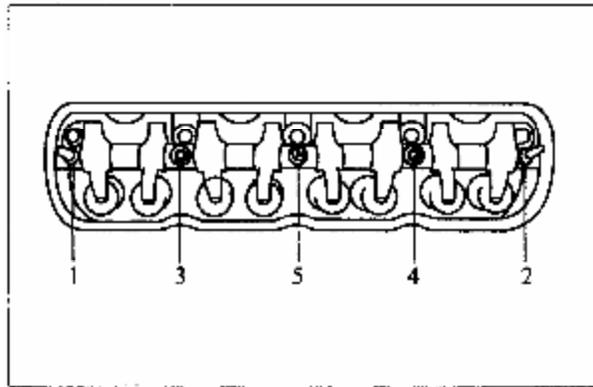

Figure 3-3 Sequence for Disassembly of Rocker Arm Bolts
**3.1.2** Follow the sequence indicated in figure 3-3 to disassemble the rocker arm shaft, unscrew the bolts and nuts of rocker arm shaft in 2~3 times to avoid breaking off of rocker arm shaft and damage the bolts.
Follow a sequence that is reversed to these indicated in figure 3-3 to assemble the rocker arm shaft assembly, tighten the bolts and nuts in 2~3 times. The final tightening torque is 25~32N·m.